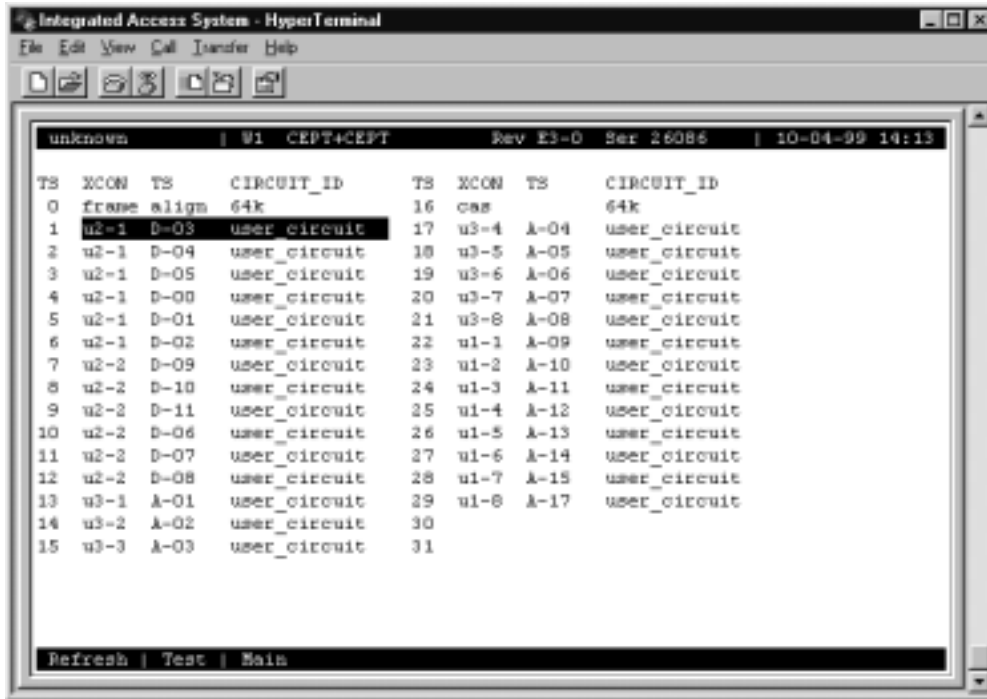

Figure 5-83. Typical Time Slot Screen in E1 Operation
2. Type “x” (**Xcon**) to bring up the time slot screen (see Figure 5-82 for T1 operation and Figure 5-83 for E1 operation).
For E1 transmission (Figure 5-83), time slot 0 and 16 are not available for assignment on either the HSU table or the voice card time slots. Like T1 operation in d/i mode, unspecified time slots are **automatically** assigned to corresponding slots on the other WAN port on the same card.